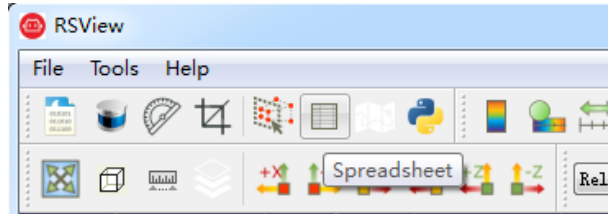

Figure A-16 RSView Spreadsheet
5. In order to inspect partial relevant point cloud data from a closer aspect, please scrub to an interested frame and click the **Spreadsheet** button (Fig A-16). A data table will be displayed on the right side. It displays all data points in the frame.